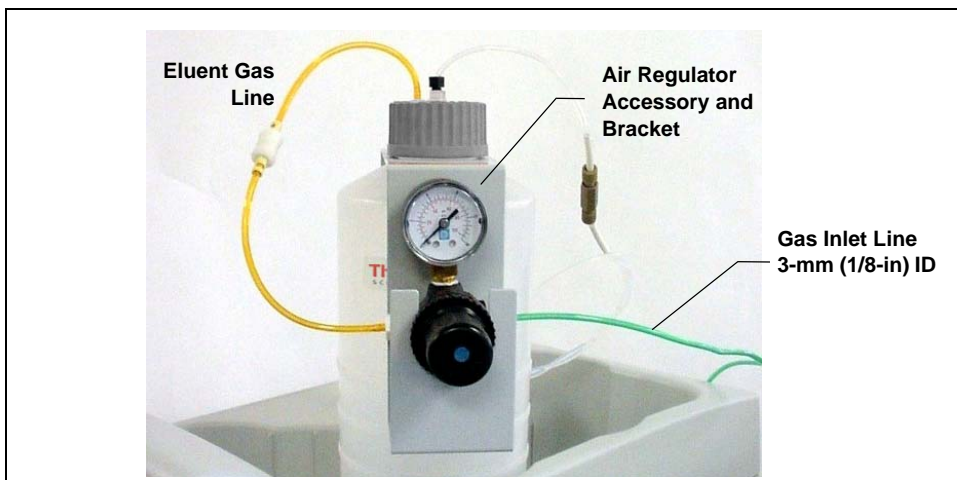

Figure 100. IC System Pressurized Eluent Reservoir Connections (Optional)
Figure 100 illustrates the eluent reservoir after all gas connections are complete.
5. Slip the air regulator accessory bracket over the neck of the eluent reservoir (see Figure 100).